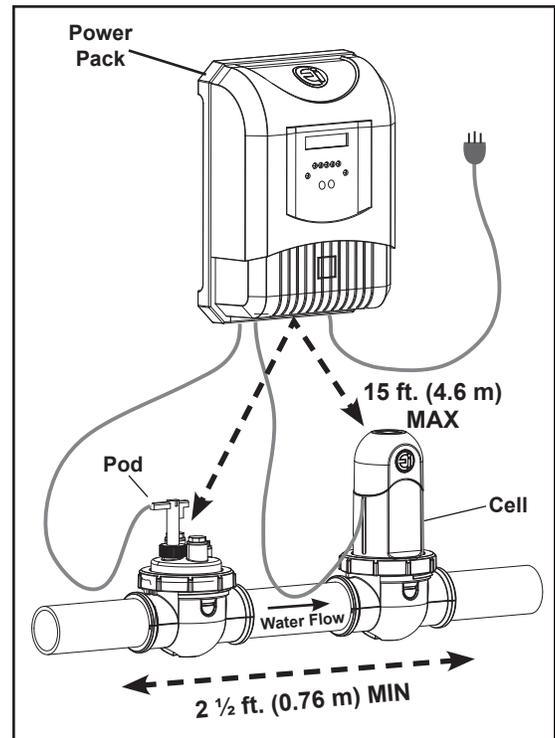

Figure 3. Installation Requirements
It is required that the water flow/salinity pod is installed in the same piping as the electrolytic cell, without any valves or diverters between them (see Figure 3).
The flow/salinity pod must be mounted as shown in Figure 3.
- The cell must be installed on a 2 ½ ft. (0.8 m) horizontal length of pipe after the heaters, pumps, and filters, as the last piece of equipment in the plumbing system (see Figure 3).
- The cell and pod must be installed no more than 15 ft. (4.6 m) from the power pack (see Figure 3).